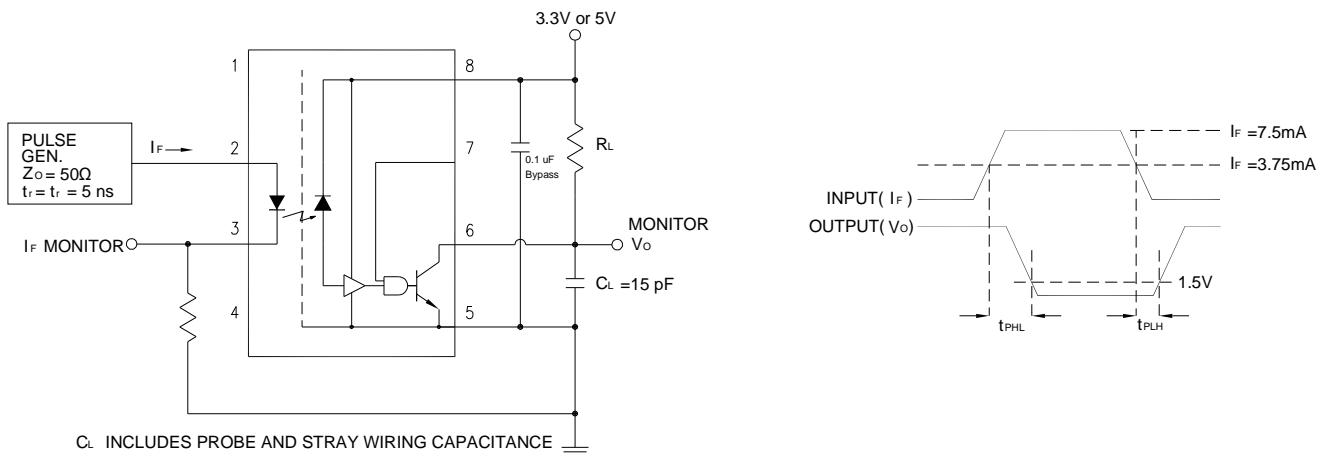

Figure 1: Test Circuit for  $t_{PHL}$  and  $t_{PLH}$
1. A 0.1μF or bigger bypass capacitor for VCC is needed as shown in Fig.1